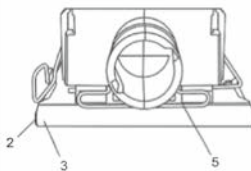

Fig. 5
1. Place the hole punch (1)
2. Wrap the sandpaper sheet (3) over the backing pad (2) and insert it into the open rear sandpaper clamp (5) (Fig. 5).
3. Wrap the sandpaper sheet (3) over the backing pad (2) and insert it into the open rear sandpaper clamp (5) (Fig. 5).